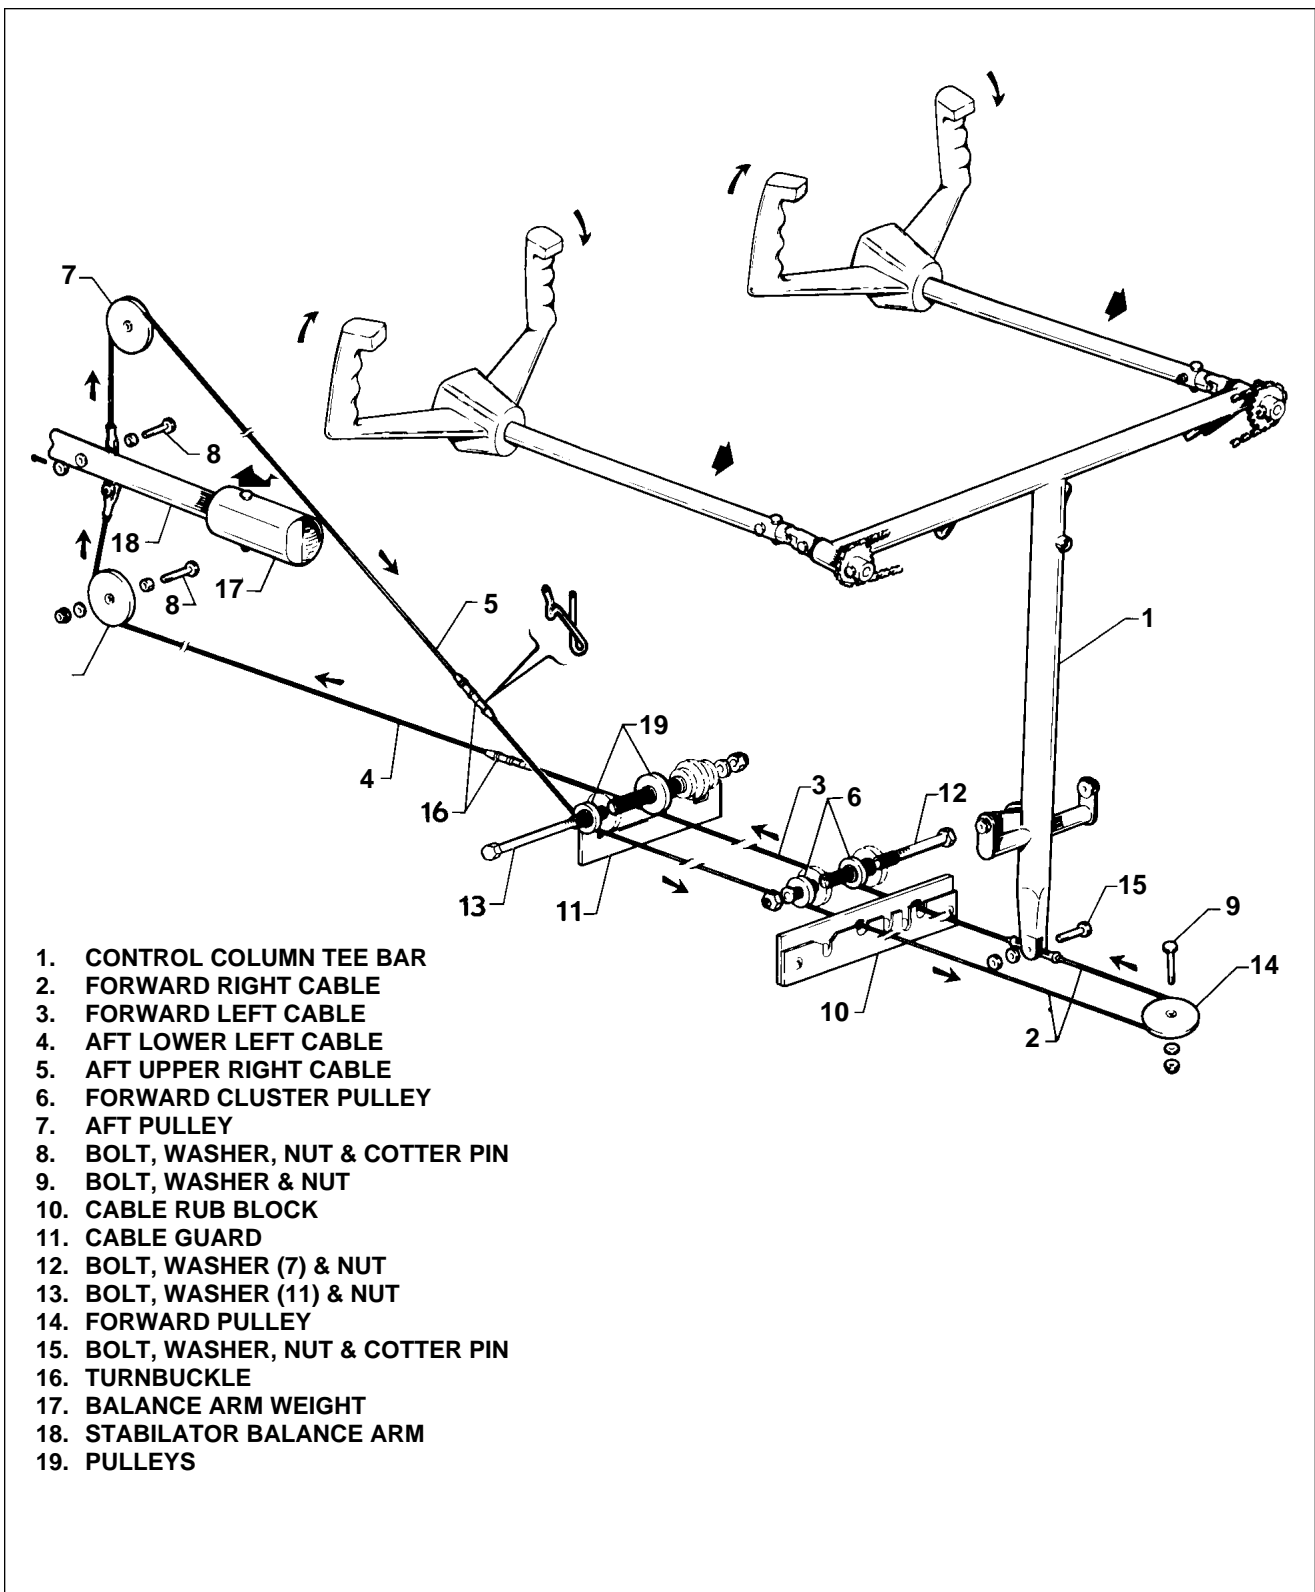

Figure 27-21. Stabilator Controls
1. Removal Of Stabilator Control Cables (Refer to Figure 27-21.)
2. Installation Of Stabilator Control Cables (Refer to Figure 27-21.)